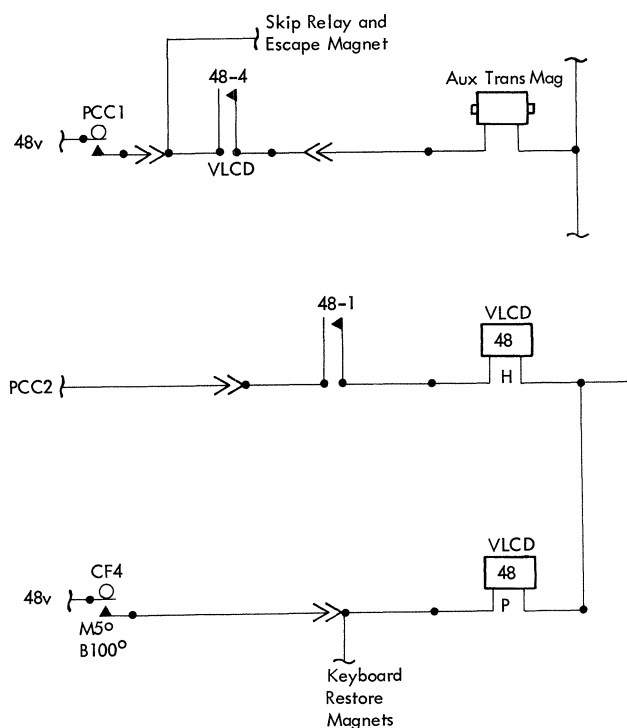

Figure 1-10. Variable-Length Feed Schematic (Wire-Contact Relay)
Figure 1-10 is a schematic and is not intended as a point-to-point wiring diagram.
1. With the card lever assembly removed from the machine and the stationary strap straight, the contact should have 0.015" to 0.020" air gap (Figure 1-10). Make the adjustment with the assembly held at 45° angle (same angle at which it rests in the machine).